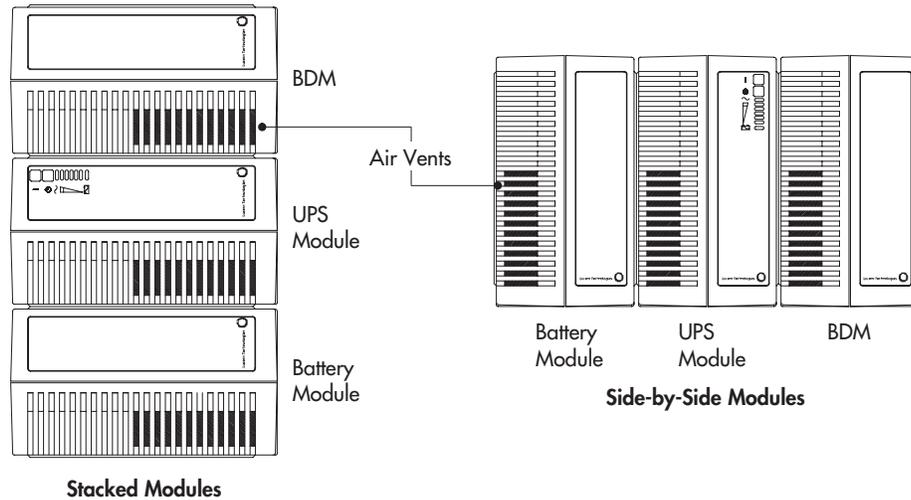

Figure 5. Module Setup with BDM
- 2** Place the BDM on top of or beside the UPS and battery cabinets as shown in Figure 5. If earthquake bracing is required, the UPS must be positioned vertically (see Chapter 8, “Seismic Installation” on page 51).